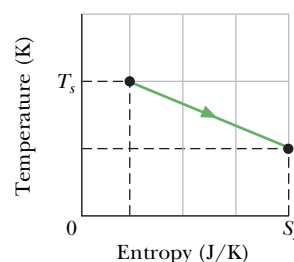

Fig. 20-26 Problem 18.
•18 **GO** A 2.0 mol sample of an ideal monatomic gas undergoes the reversible process shown in Fig. 20-26. The scale of the vertical axis is set by  $T_s = 400.0\text{ K}$  and the scale of the horizontal axis is set by  $S_s = 20.0\text{ J/K}$ . (a) How much energy is absorbed as heat by the gas? (b) What is the change in the internal energy of the gas? (c) How much work is done by the gas?